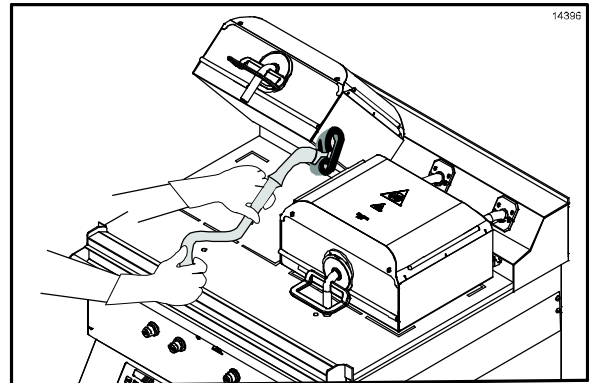

Figure 89
27. Scrub the inner edges of the right and left platens. (See Figure 89.)